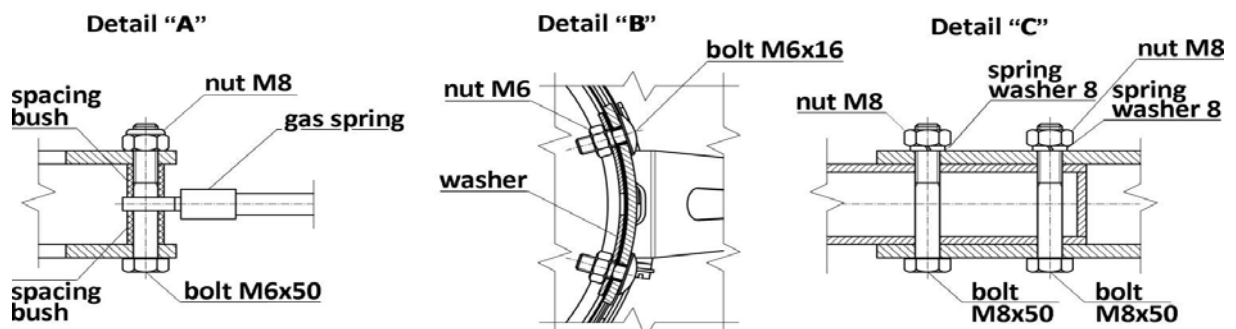

Fig. No.5 – Assembly instruction of the extraction arms type YOGA-{M;K;L;D}-R
3. Screw up the swivel support, to the plate of the lower joint – according to the information in Fig. No.5 Detail "C".
5. Screw together the terminations of the gas spring with a plate of the lower joint – according to the Fig. No.5 Detail "A" (see also Photo No.1).
7. Screw up the hood with the hood joint – according to the information in Fig. No.5, Detail "B".